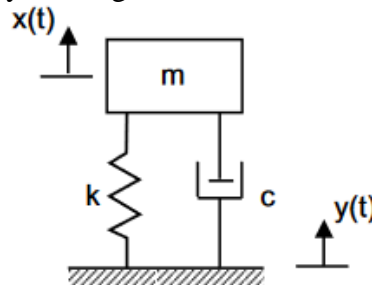

Figure 8
- 8) Write a MATLAB script for plotting (a) the non-dimensional response magnitude for a system with harmonically moving base shown in Fig. 8 (b) the response phase angle for system with harmonically moving base.